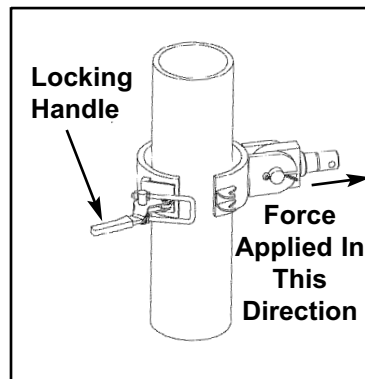
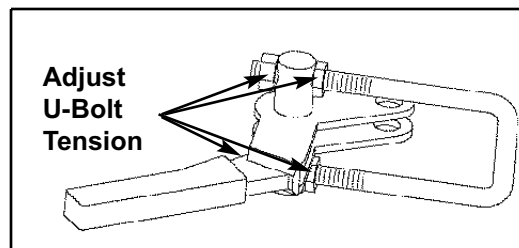

Figure 2
Figure 4
**IMPORTANT:** The lock on the auxiliary pushing attachment must hold the attachment secure. (See Figures 2 and 3.) If necessary, adjust tension on U-bolt until a firm locking pressure is achieved. (See Figure 4.)